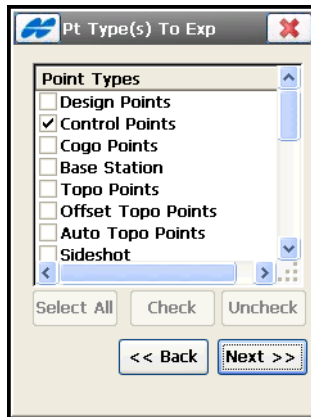

Figure 4-4. Select Point Type(s) to Export
The *Point Type(s) To Export* screen (Figure 4-4) selects the types of points to export if points filter by type has been enabled in the *Export* screen. Place check marks near the desired point types.
- **Select Types Of The Points** – check mark this field if not all types of points should be exported. In this case the **Point Types to Export** screen first displays (see Figure 4-4 on page 4-5).